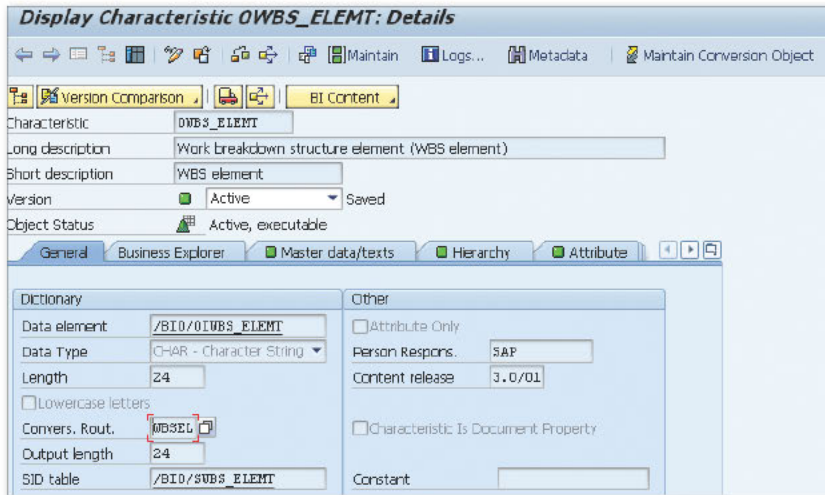

Figure 1 Function Module Behind the Routine
1. On the GENERAL tab in the resulting screen, double-click on the conversion routine WBSEL to see the function module behind the routine (see Figure 1).